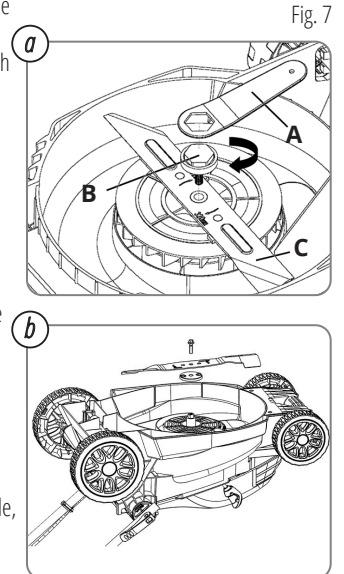

Fig. 7
- Do not remove the impeller (A) for any reason (Fig 7).